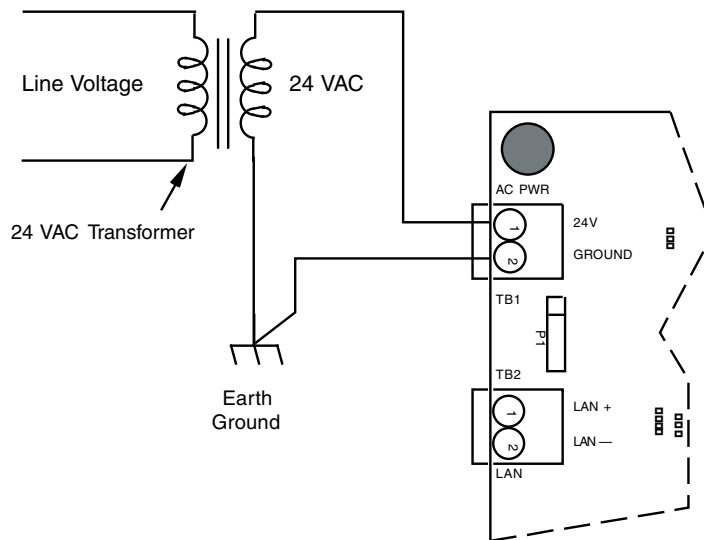

Figure 22. Power Connection
1. Connect the 24 VAC input lead from a separate, isolated 24 VAC transformer to TB1-1 (24 VAC), see Figure 22.